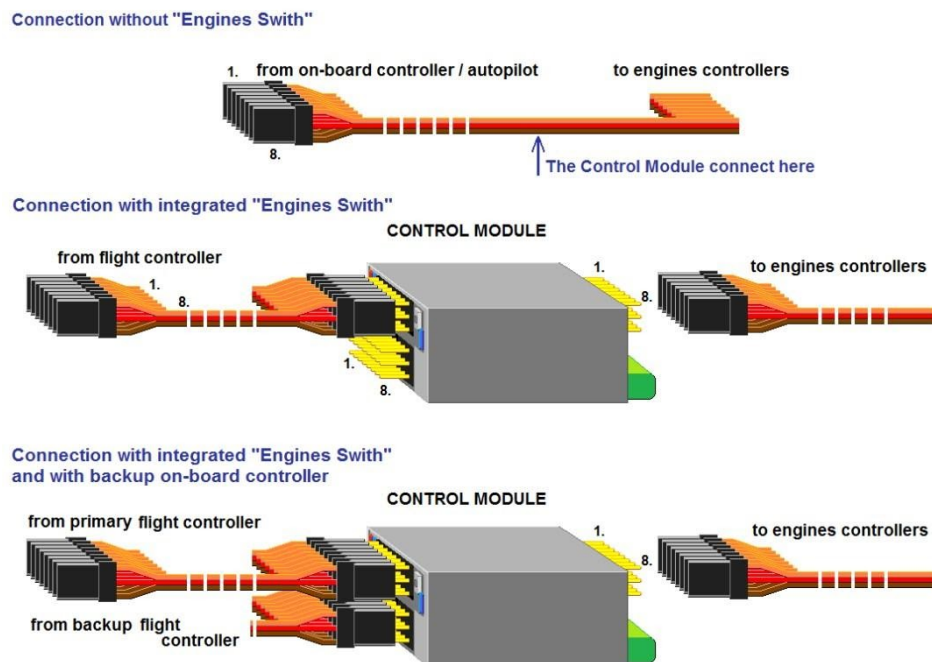

Figure 6
6) The left and right part of folded parachute fold over each other according to Figure 6. It is important to **preserve the structure of folds**! Now the parachute is ready to be pressed into the container.